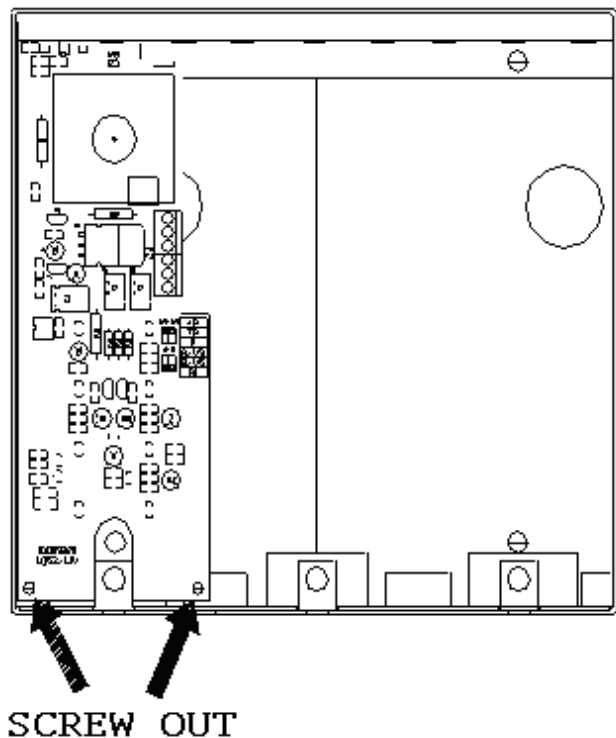

Fig. 8 (dismounting the camera plate).
5. Take out the camera plate (2 screws in the bottom part) **Fig. 8**
8. Fit the camera plate. **Fig. 8**.
7. Fit the cable through the hole **B**. **Fig. 8**.
8. Fit the case in the frame, fasten the case to the bottom using 4 holes **A**. **Fig. 8**.